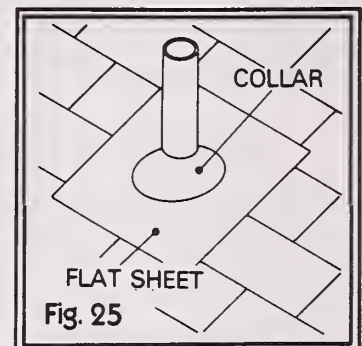

Fig. 25
1. Plumbing vents are flashed with a specially made device consisting of a circular collar soldered to a flat sheet (fig. 25).